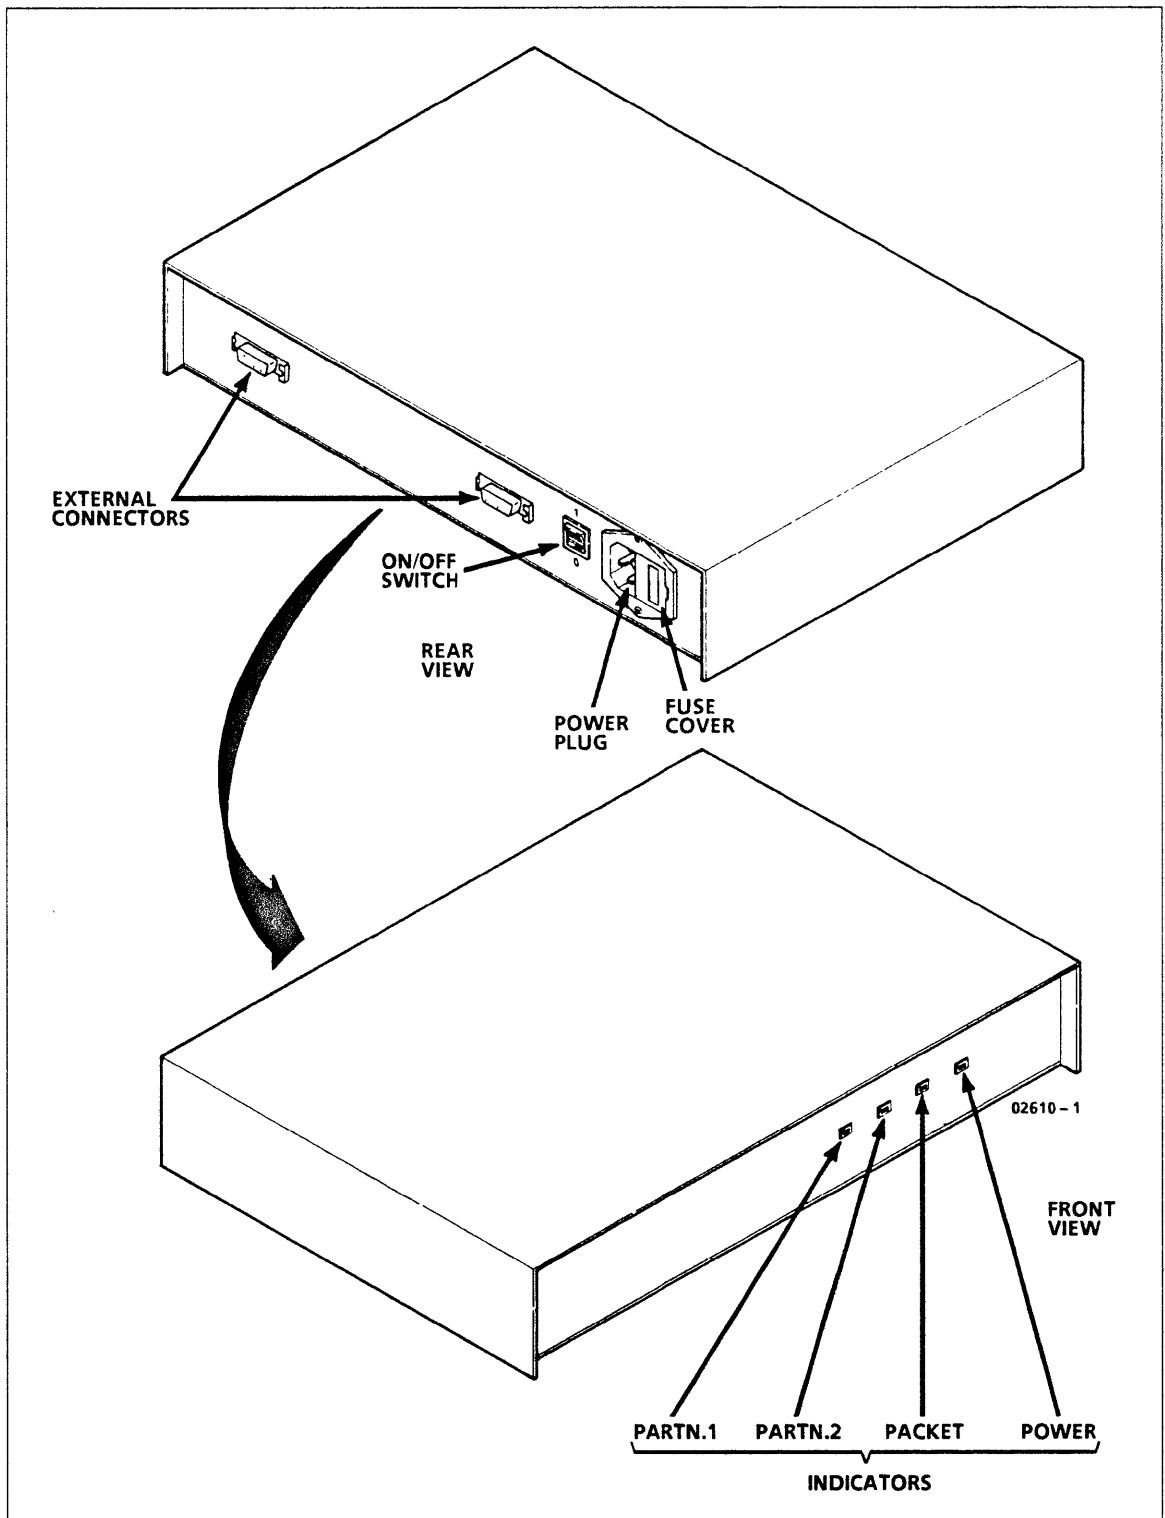

Figure 2-11. Repeater Connectors, Switches, and Indicators
5. Connect transceiver interface cables between transceivers and repeater and lock them in place with the slide latches on cable connectors (figure 2-11).